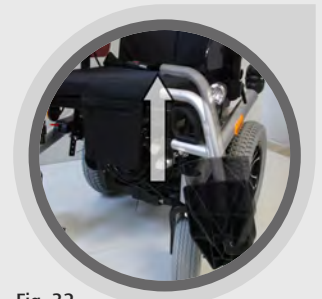

Fig. 32
- The legrest can be taken off completely in the "exterior position". (Fig. 32)